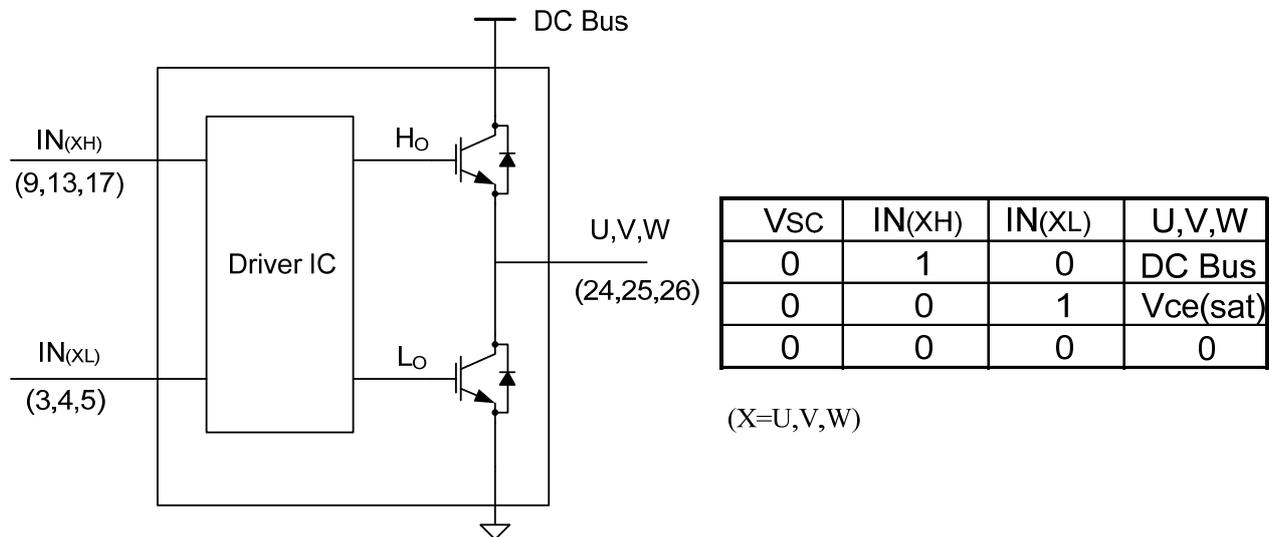

Figure 4-11. Input/Output Signal Circuit
Figure 4-11 is a timing diagram showing the operation of the short circuit protection. When current flows in the negative DC bus a voltage is developed across  $R_{SHUNT}$ . The voltage across  $R_{SHUNT}$  is filtered using an RC circuit consisting of R and C and connected to the CIN input on the IPM. If the collector current exceeds the  $I_{sc}$  level for long enough to charge the shunt filter capacitor (C) to a voltage greater than  $V_{sc}(ref) (R_{SHUNT})$ . The filter (C, R) adds a time delay to prevent erroneous operation of the protection due to free-wheeling diode recovery currents and voltage surges caused by stray inductance in the sensing circuit. Selection of the shunt resistor and filter components will be covered in sections 4.6.4. When the protection is activated all IGBTs are turned off and the open collector fault output is pulled low. The IGBTs remain in the off state and the fault signal remains low for the duration of the fault timer ( $t_{FO}$ ). The length of  $t_{FO}$  is set by the external timing capacitor  $C_{FO}$ . During this time the control input signals are ignored. Normal operation resumes at the first off-to-on transition following the end of the fault timer.